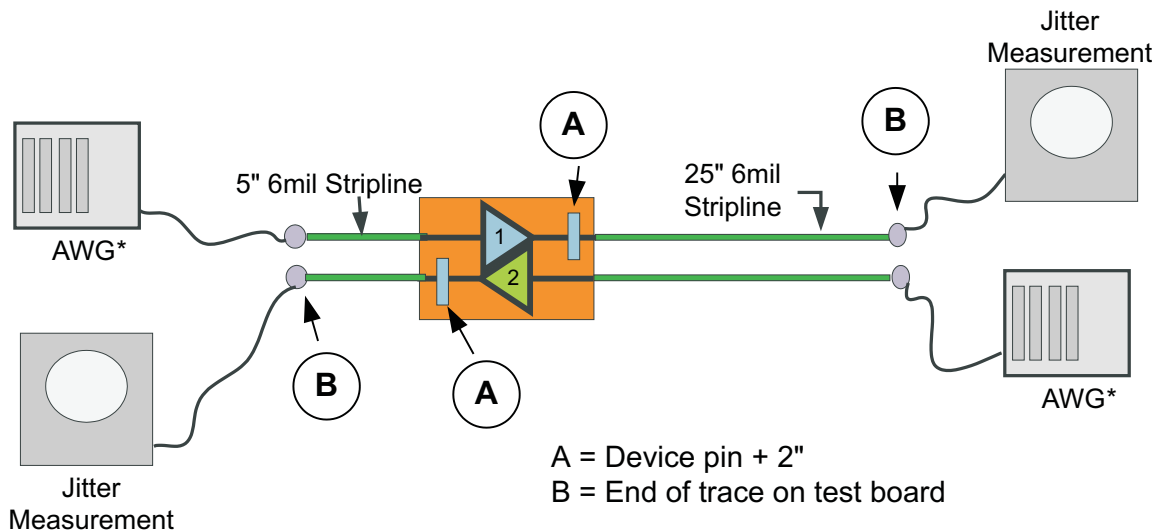

Figure 10. Jitter Measurement Setup
| T TX-TJ (1)   | Total Jitter   | At point A in Figure 10 (2)  | 30                                  |      | 50   | ps pp |    |
|   |  | At point B in Figure 10 (2)  | 25                                  |      | 80   |       |    |
| T TX-DJ  | Deterministic Jitter                                       | At point A in Figure 10 (2)  | 16                                  |      | 30   | ps pp |    |
|   |  | At point B in Figure 10 (2)  | 11                                  |      | 60   |       |    |
(1) Includes RJ at 10-12
(2) Refer to Figure 10 with ± K28.5 pattern at 5Gbps, -3.5dB DE from source AWG .